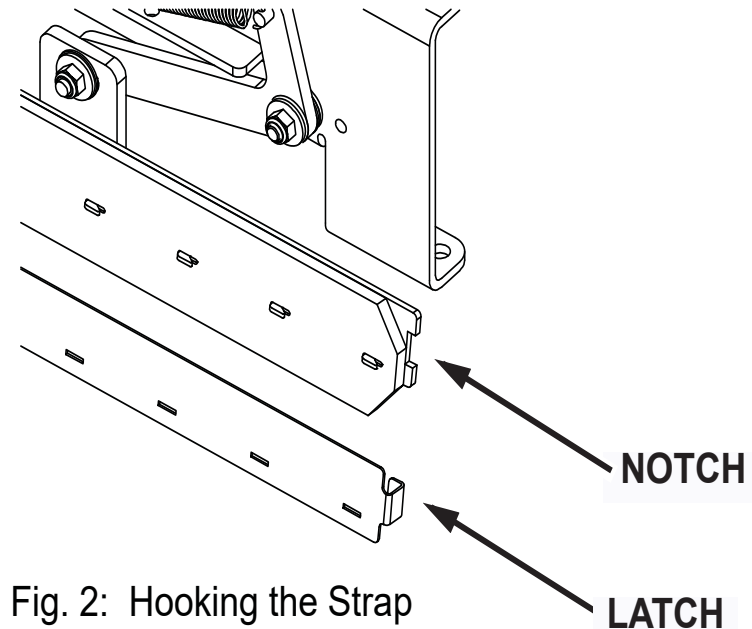

Fig. 2: Hooking the Strap
6. Replace the side squeegee retainer strap by first hooking the forward end around the notch at the front edge of the side squeegee frame. (See Fig. 2)